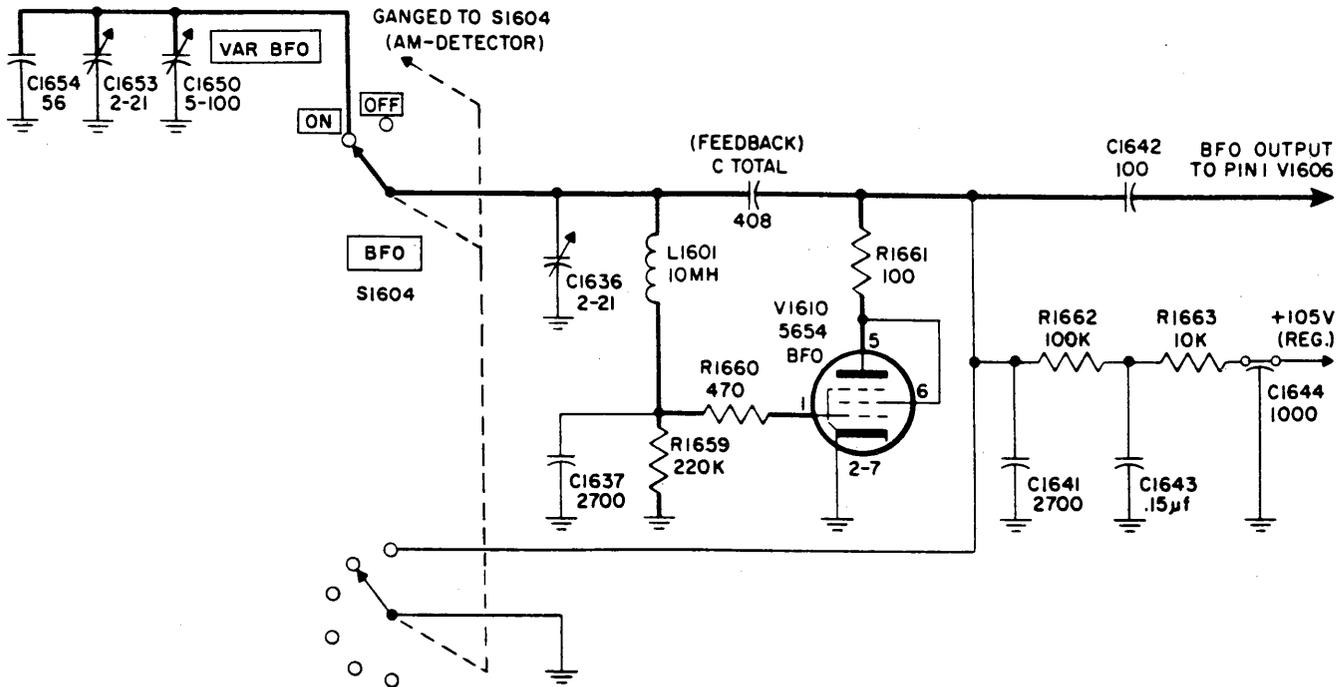

Figure 4-25. Beat-Frequency Oscillator V1610, Simplified Schematic Diagram
b. BEAT-FREQUENCY OSCILLATOR. (See figure 4-25.)—The beat-frequency oscillator (BFO) operates in conjunction with the first AF amplifier (V1606) to provide reception of keyed CW and frequency-shift signals. BFO and 80 kc IF signals are heterodyned in V1606 to produce the desired beat note. The output frequency signal of the BFO is determined by the position of the B.F.O. switch on the upper demodulator panel. There are two positions. OFF position, with the BFO inoperative, is used for reception modes other than keyed CW and frequency-shift, ON position provides a frequency vernier control of approximately 3 kc either side of "zero beat."